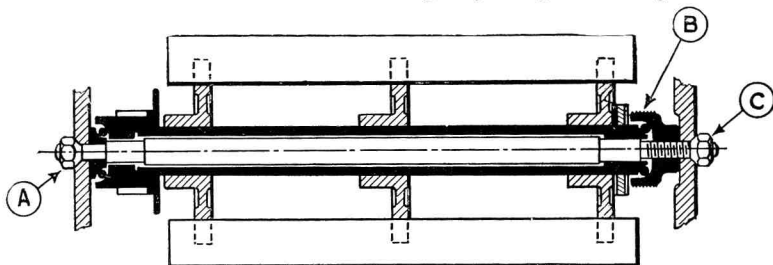

Fig. 2. Adjustable Ball Bearing Spindle.
1. **Adjustable Ball Bearing Cutter Spindle** (Fig. 2). The cutter cylinder runs on special adjustable ball bearings, provided with single side adjustment, readily accessible from the outside of the machine without disturbing anything. In Fig. 2